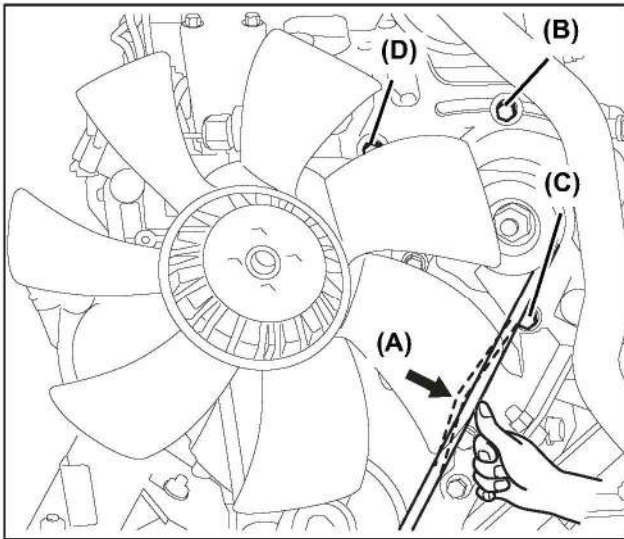

Fig 14-33
1. Loosen the adjusting bolt (Fig 14-33, B).
2. Loosen the mounting bolt (Fig 14-33, C).
3. Loosen the fixing bolt (Fig 14-33, D).